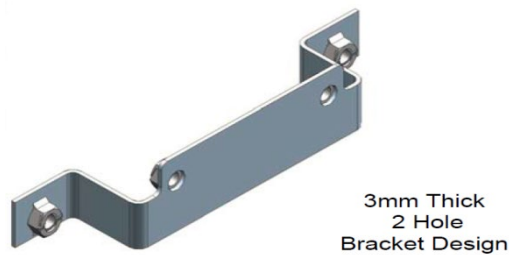

Figure 9 – Superseded mounting bracket
- 1. Standard non-handed, (See Figure 9) secured using 4no. M12 screws to bearer wall, made from 5mm thick steel plate. Installed at all RT60 layouts and specific locations on UIC54B layouts. See table Table 2.